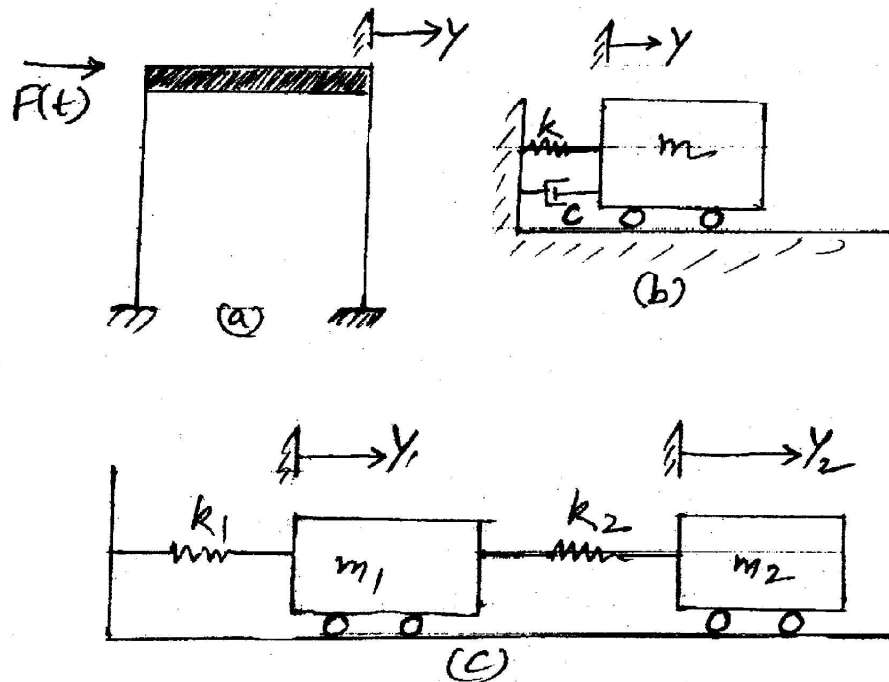

Fig. 3 (a to c)
- (b) What do you understand by degrees of freedom ? How many degrees of freedom can be taken in each case in the figure 3 given below for simplicity ?